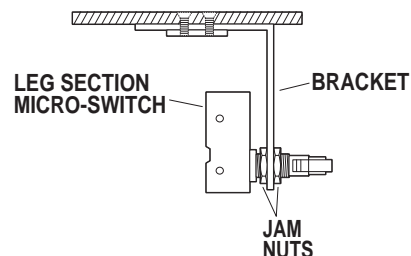

Figure 5-20. Leg Section Micro-Switch Adjustment.
3. To adjust the Leg Section switches remove seat section top, loosen the 2 phillips head screws securing bracket, adjust the switch, tighten the screws and replace seat section top. See figure 5-20.